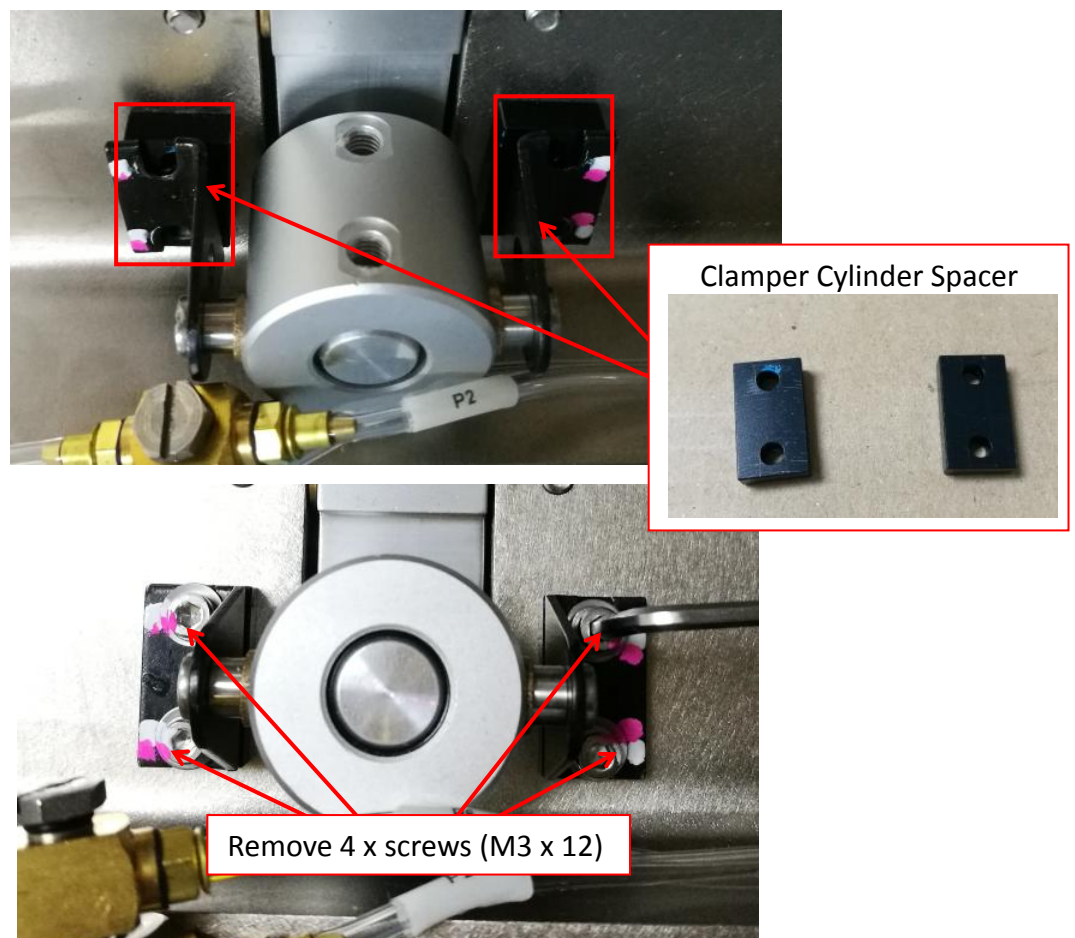

Figure 4 Clamper Cylinder Removal
5. Loosen 4 x Screws (M3 x 12). Remove 2 x Spacers as shown in Figure 4.